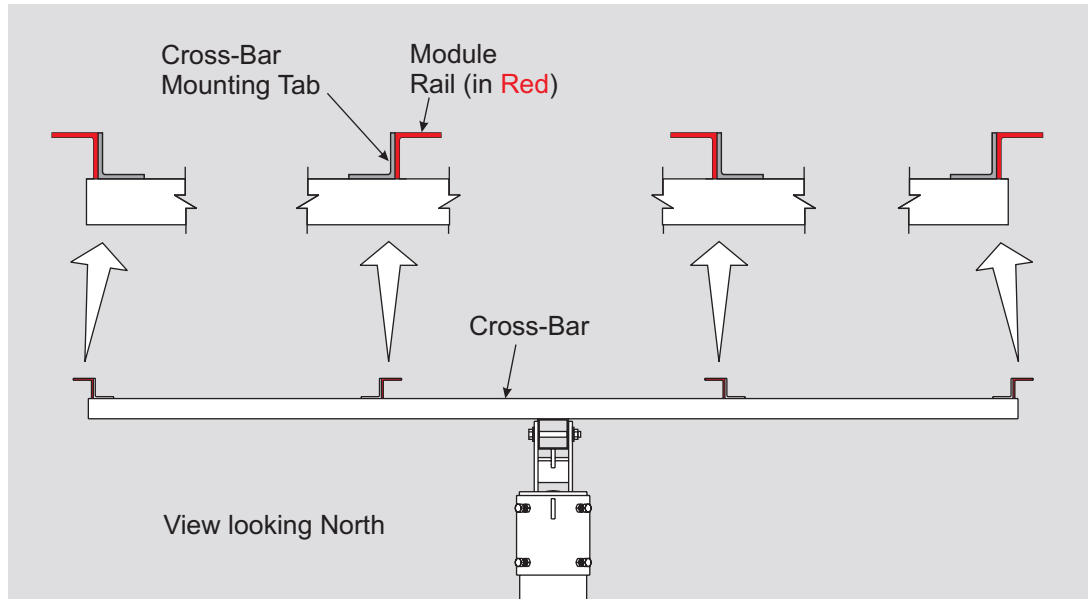
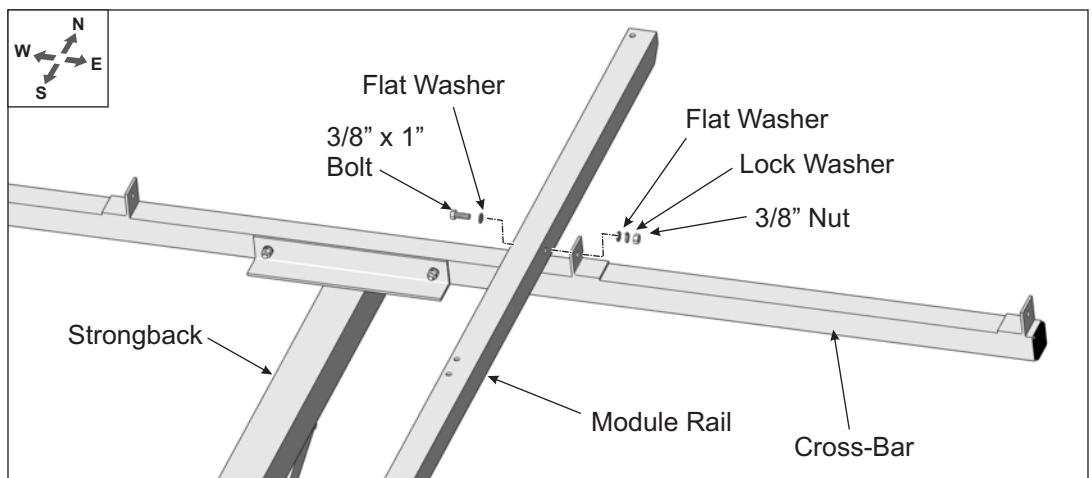
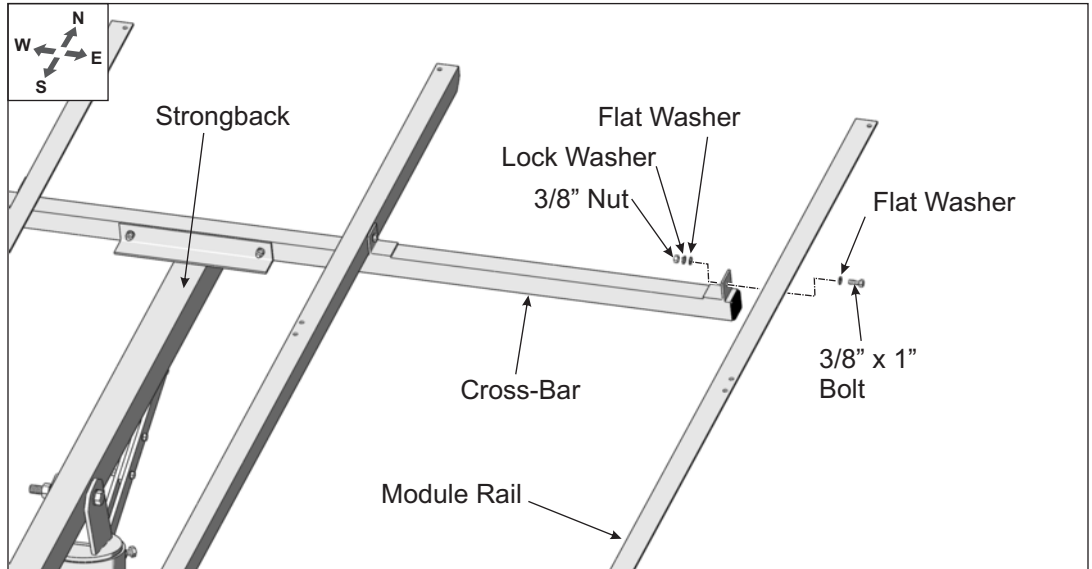

Figure 4-1: Orientation of Module Rails to Cross-Bars
Figure 4-2: Installing the Inboard Module Rails to Cross-Bars
Figure 4-3: Installing the Outboard Module Rails to Cross-Bars
Module Rails are installed differently depending on whether they are mounted inboard or outboard of the Cross-Bars. (See Figure 4-1)
- A. Referring to Figure 4-1, for orientation of the Module Rails, position and align the Module Rail mounting holes with the holes of the Cross-Bar mounting tabs and secure with 3/8" x 1" bolts and hardware. Finger-tighten for now. (See Figure 4-2)
- A. Referring to Figure 4-1 for orientation of the outboard Module Rails, position and align the Module Rail mounting holes with the holes of the Cross-Bar mounting tabs and secure with 3/8" x 1" bolts and hardware. Finger-tighten for now. (See Figure 4-3)